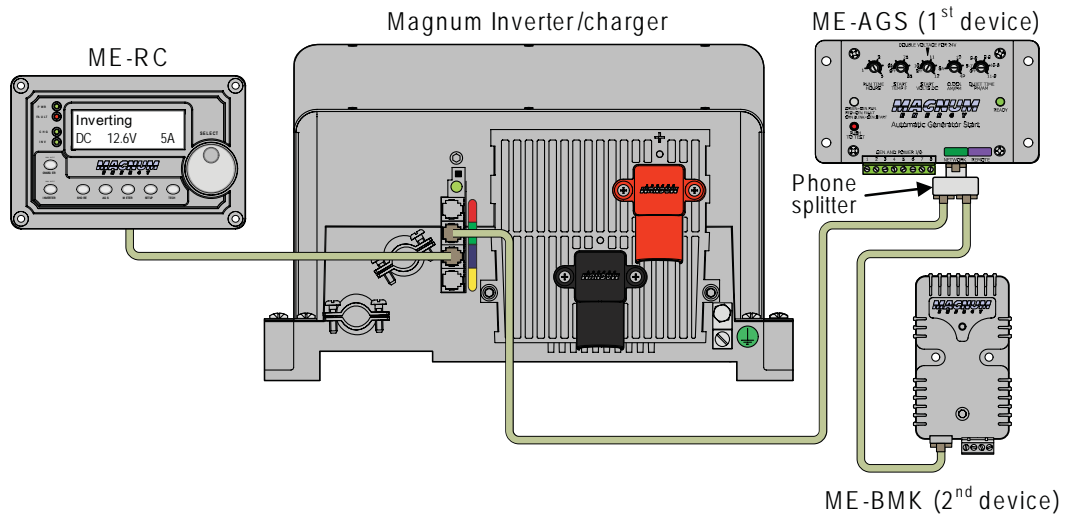

Figure 2-5, Multiple Network Devices - Daisy-Chain Configuration
- Daisy-Chain Configuration – In the daisy chain arrangement, the network devices are linked in series (see figure 2-5). If using this configuration, the ME-AGS must be the first device connected to the inverter’s “Magnum Net” or “network” port - then followed by the ME-BMK.